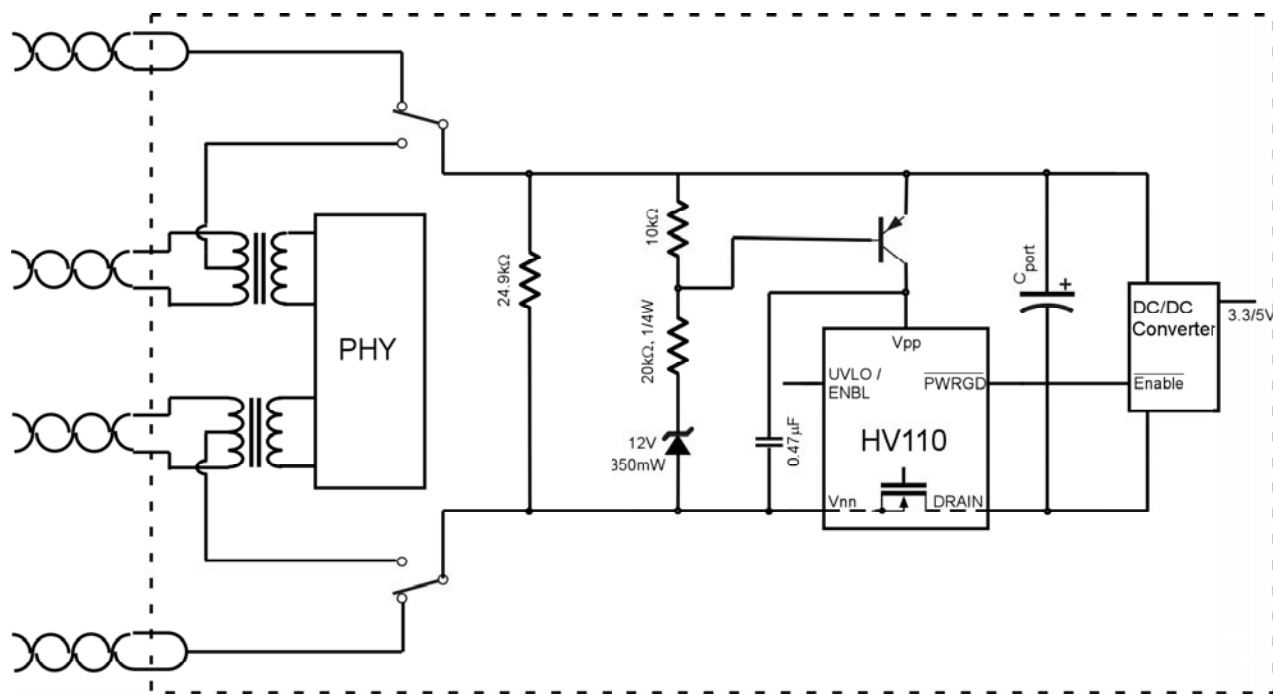

Figure 10. Powering HV110 using a PNP transistor instead of a zener
- ❑ Meets the turn-on and turn-off thresholds for the PD device & has a built-in 8V hysteresis (with PNP transistor as shown in Figure 10).
Because of the zener diode connected to V_{PP} pin, it will be necessary to modify the internal UVLO thresholds by using two external resistances as shown in Figures 1, 9 and 11, to provide the UVLO turn-off and turn-on voltages to meet the IEEE 802.3af standard. These two resistors perform dual functions, UVLO voltage adjustments and also the Signature Detection function (i.e. represent the 25k impedance). Figure 10 shows a different implementation using a PNP transistor which allows the use of the HV110's internal UV circuit.
Figure 10 shows the modified circuit. In the Discovery stage, the input voltage is less than 10V. This causes the zener to be reverse biased and hence there is no base current to the PNP transistor. Once the input voltage increases beyond 12V, the zener starts conducting, which provides a base current path for the PNP transistor. The transistor goes into the saturation region, essentially pulling V_{PP} to the rail.